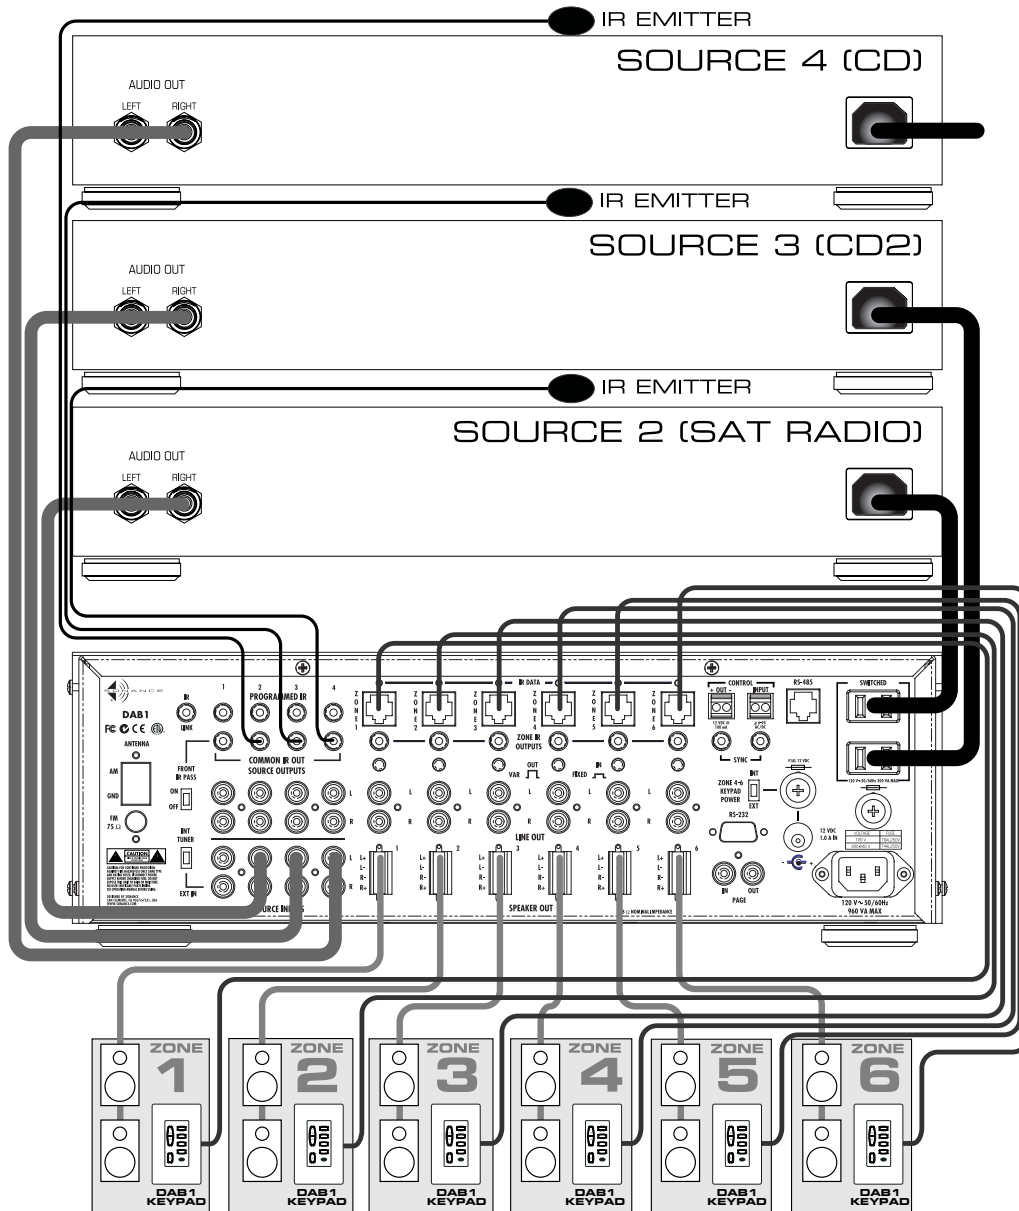
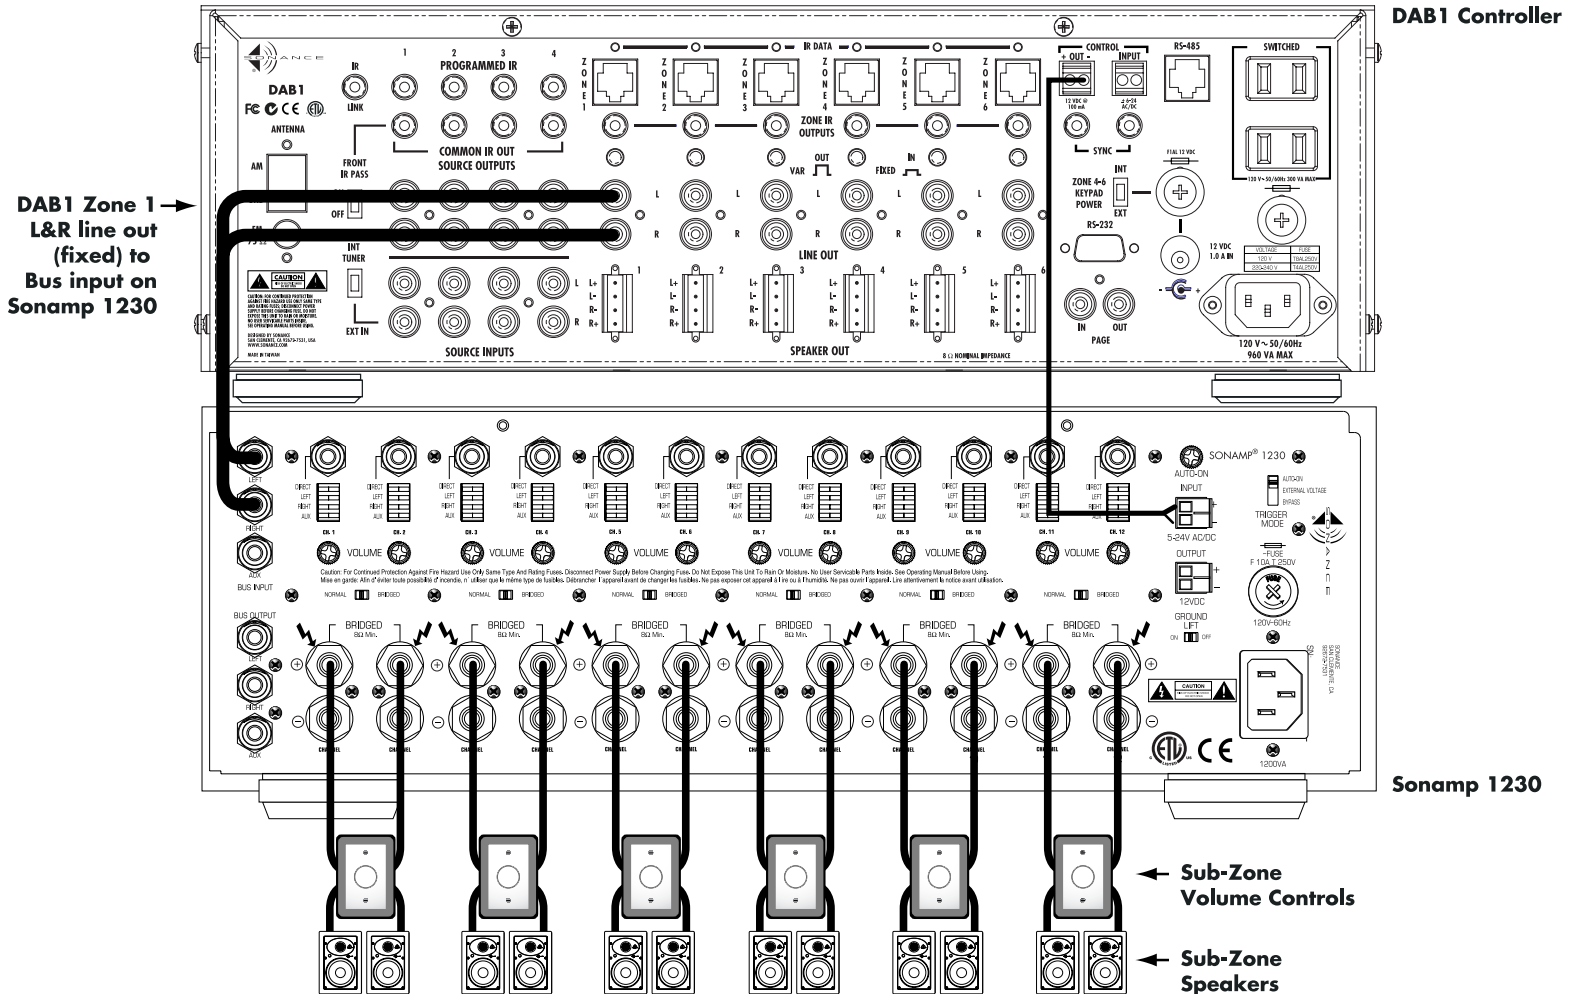

Figure 7. Typical DAB1 System
Figure 12. Sub-Zone Expansion
With the system set up and connected as shown in Figure 7, the DAB1 and its sources can be tested for proper operation. (It is recommended to always test components prior to installation.) A certain amount of configuration and programming will be required for every system, but setting the system up and testing functionality will also provide familiarity with the DAB1 and the source components prior to programming, and will save time in system design, programming and installation.
1. Connect all components as shown in Figure 7 including:
2 Pair Stranded – There are two wiring schemes that should be considered for speaker wire. In most applications, wire should be pulled in home runs directly from the speaker locations to the DAB1. This method assumes Volume in each Zone will be controlled by the DAB1 Keypad or an IR remote. (See Figure 7). The second scheme would be to run the speaker wire through a low voltage J-box when in-wall Volume Controls are to be used. This method is appropriate when an external multi-channel amplifier will be used to increase the number of rooms on a Zone, and Volume will be controlled in each room with an in-wall Volume Control. (See Figure 12). 18 AWG up to 50’; 16 AWG up to 100’; 14 AWG up to 250’.
When Using a Multi-channel Amplifier for Sub-Zone Expansion (Figure 12)